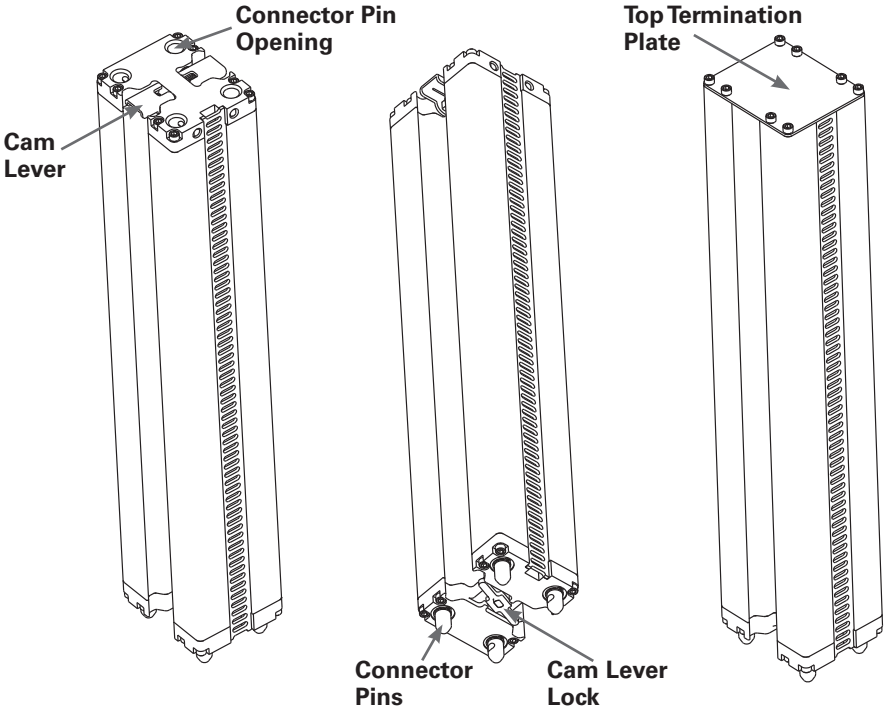

Figure 2-7 - Mast Connectors
- 4. Mast Connectors** - Check to be sure the components of the Mast Connectors are present, undamaged, clear of debris and in good working condition. (See Figure 2-7) **NOTE:** *Be sure the top mast Termination Plate is present, undamaged and securely attached to the mast section.*